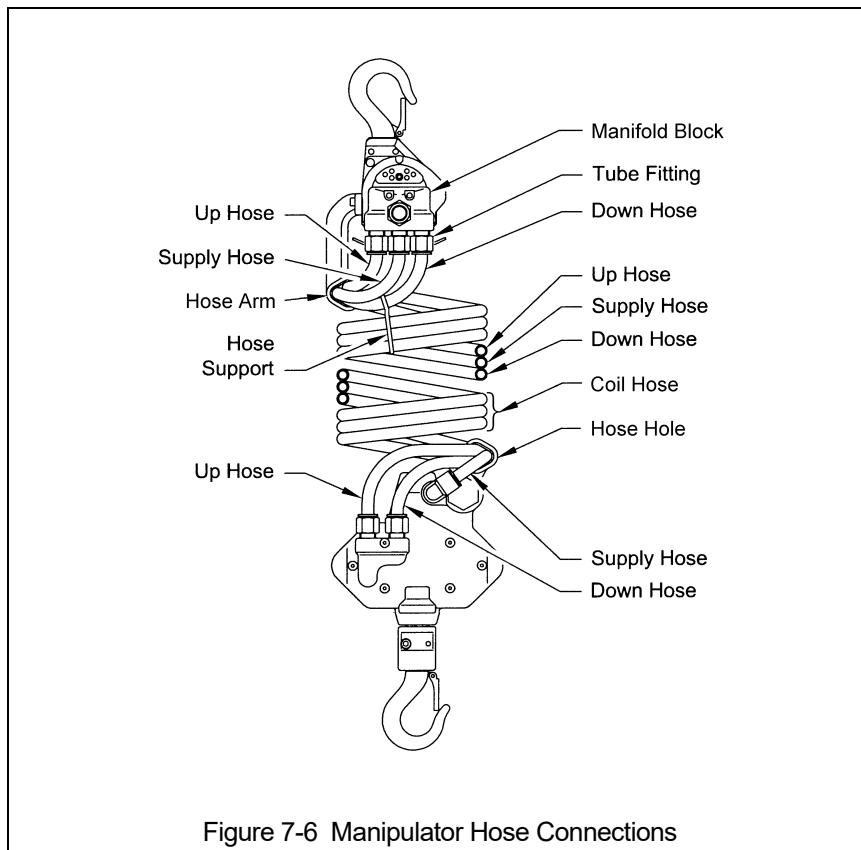

Figure 7-6 Manipulator Hose Connections
7.3.3 The following procedure covers the installation of the Coil Hose (Parts List Figure Number 202) onto the Manifold Block and Manipulator Control. Refer to Figure 7-6.
- 3) Firmly press the 3 Pendant Hoses completely into the Hose Fittings on the Manifold Block until they bottom out. Refer to Figure 7-6 for the correct placement of the Hoses.
- 5) Firmly press the 3 Pendant Hoses completely into the Hose Fittings on the Manipulator Control until they bottom out. Refer to Figure 7-6 for the correct placement of the Hoses.